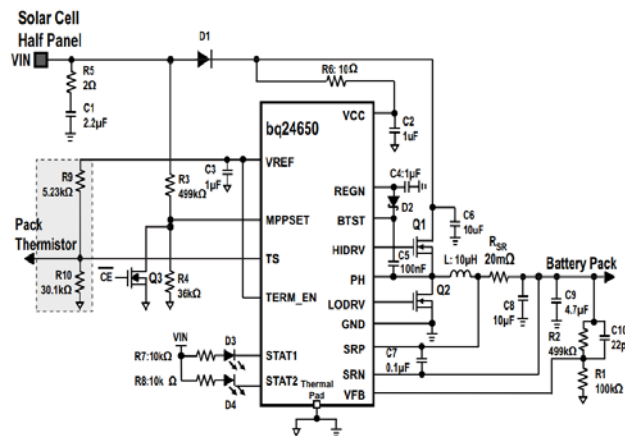

Figure 4: Switch-Mode Charger Controller (BQ24650) [3]
4. Figure 4: Switch-Mode Charger Controller (BQ24650)
ripples, the converter is fitted with supply side filters and load side filters which smooth out power flow. There are two DC-DC buck converters in this device. The first one is at the output of the solar panels. With high voltage solar panels, the output voltage may reach 50 V. The normal open output voltage is from 28 V – 38 V so the output of a DC-DC controller will be 24 V to match with all 12 V systems and 24 V systems. Output current needs to achieve 5 A to 8 A. Texas Instruments is a professional in this field and the most popular solution is BQ24650 [3]. Figure 4 shows a switch-mode charge controller. The second one is supply to USB port for charging. This DC-DC buck converter will regulate 12 V – 24 V to 5 V, and output current needs to achieve 2A.